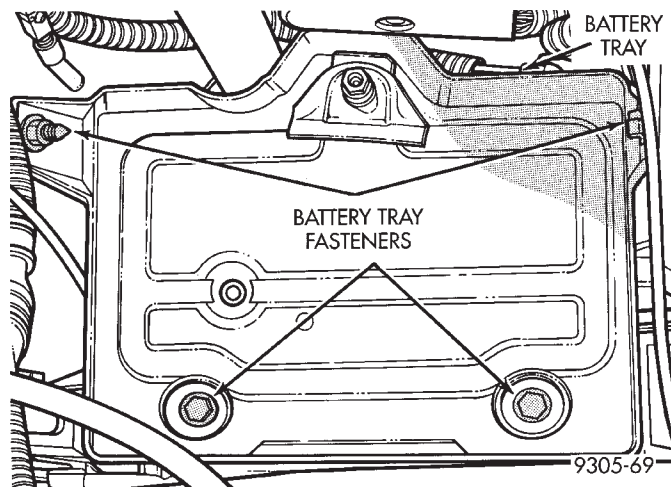

Fig. 1 Battery Tray Attaching
(1) Center vehicle on hoist, or raise front of vehicle on jack stands. Remove left front wheel and tire assembly from vehicle.
(2) Disconnect battery cables from battery and remove battery from battery tray. Remove the 4 fasteners attaching battery tray to vehicle and remove battery tray (Fig. 1).